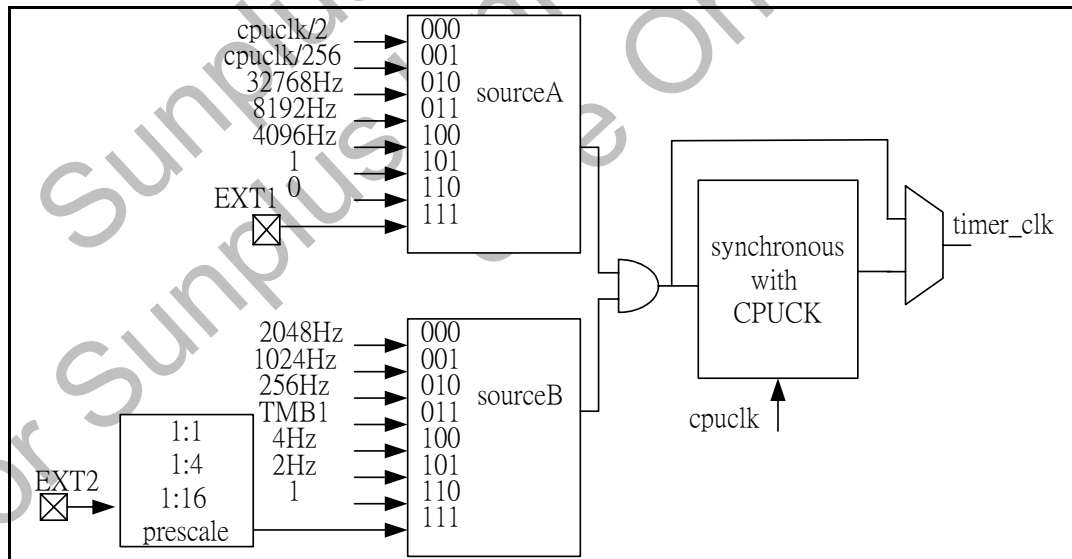

Figure 12-1 Timer 0 Block Structure
7. The source of Timer0 has two choice, One is source A, and the other is source B. Two sources combine by "AND" gate the following Figure 12-1 show the Timer0 block structure.